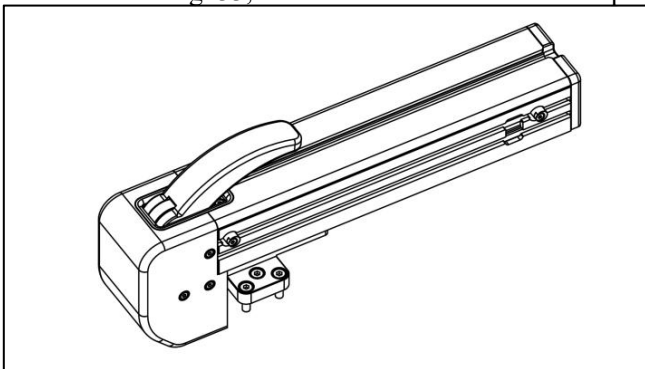

Fig. 32
2. Remove the fence main body assembly according to the procedure described in section 7.1, as shown in Fig. 32.